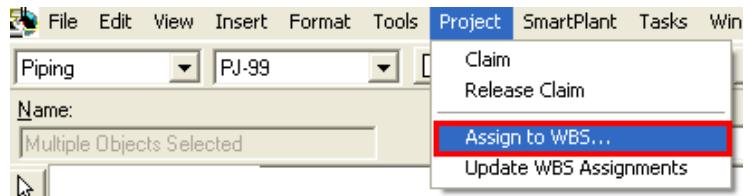

Figure 3: Assign to WBS... Command
11. Select the **Project > Assign to WBS...** command, as shown in Figure 3, to associate the selected piping objects to a WBS item.